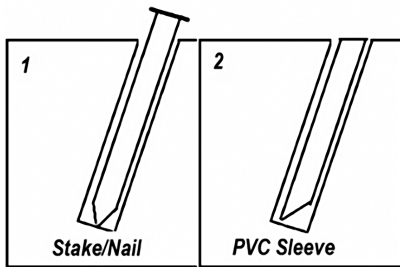

Fig. 4
- 8) Using the Stake/Nail, make a hole in the ground, taping the it into the ground and making small circular motions to loosen the soil. The hole should be angled away from the street and the center post. This will help to keep the net tight and the posts straight (Fig 4).
- 9) Tap the PVC Outer Post Sleeve into the hole using a rubber mallet or a metal hammer and a block of wood until it is flush with the ground. Do not damage the end of the PVC. Slide the post into the PVC sleeve (Fig 4).
- 5) Using the Stake/Nail, make a hole in the ground, taping the it into the ground and making small circular motions to loosen the soil. The hole should be angled away from the other side of the driveway. This will help to keep the net tight and the posts straight (Fig 4).
- 6) Tap the PVC Outer Post Sleeve into the hole using a rubber mallet or a metal hammer and a block of wood until it is flush with the ground. Do not damage the end of the PVC. Slide the post into the PVC sleeve (Fig 4).